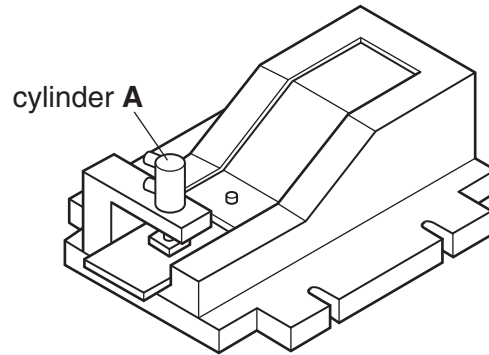

Fig. 9
- (c) Fig. 9 shows the clamping device that uses cylinder **A** to hold parts in position ready for riveting. It is found to get in the way when placing the parts on the machine, slowing down the operation.